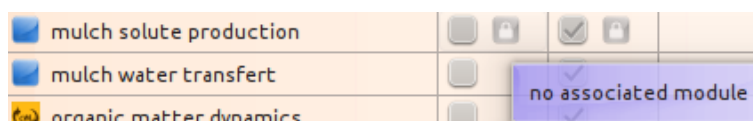

Figure 23: Process not selectable, accuracy of cause
- (b) has all of its associated modules that cannot be used. This case occurs when the module waits for inputs from upstream modules which do not exist. To find out the reason for the non-availability, place the cursor on the checkbox, a contextual help then appears indicating the nature of the error (see figure 23).